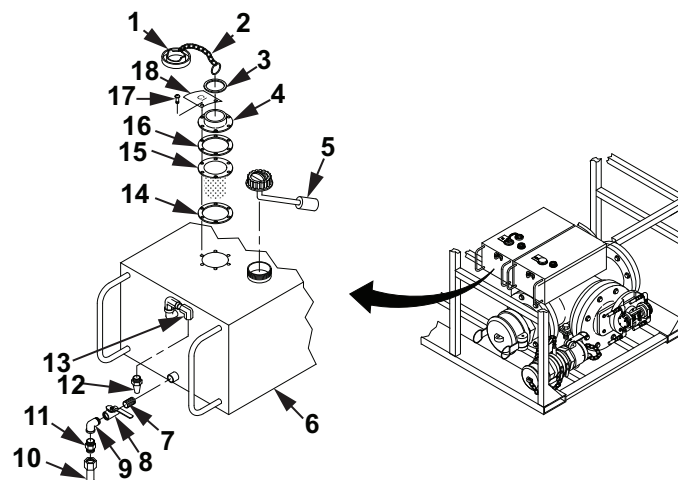

Figure 2. Fuel Additive Injection Assembly CI and SDA Additive Tank Disassembly.
1. Install additive shutoff valve (Figure 2, Item 8) into additive tank (Figure 2, Item 6).
- a. Apply teflon tape to threads of nipple (Figure 2, Item 7).
- b. Install nipple (Figure 2, Item 7) in additive shutoff valve (Figure 2, Item 8). Tighten nipple (Figure 2, Item 7).
- c. Install additive shutoff valve (Figure 2, Item 14) and nipple (Figure 2, Item 7) into additive tank (Figure 2, Item 6). Tighten additive shutoff valve (Figure 2, Item 8).
- d. Apply teflon tape to threads of 90° elbow (Figure 2, Item 9).
- e. Install 90° elbow (Figure 2, Item 9) on additive shutoff valve (Figure 2, Item 8). Tighten 90° elbow (Figure 2, Item 9).
- f. Apply teflon tape to threads of adapter (Figure 2, Item 11).
- g. Install adapter (Figure 2, Item 11) on 90° elbow (Figure 2, Item 9).
- h. Connect hose (Figure 2, Item 10) to adapter (Figure 2, Item 11).
2. Install level gauge (Figure 2, Item 5) in additive tank (Figure 2, Item 6).
3. Install filler/strainer (Figure 2, Item 15) on additive tank (Figure 2, Item 6).
- a. Install new gasket (Figure 2, Item 14) on filler/strainer (Figure 2, Item 15).
- b. Install filler/strainer (Figure 2, Item 15) in additive tank (Figure 2, Item 6).
- c. Install new gasket (Figure 2, Item 16) on filler/strainer (Figure 2, Item 15).
- d. Install new gasket (Figure 2, Item 3) on cap (Figure 2, Item 1).
- e. Install chain (Figure 2, Item 2) on retainer ring (Figure 2, Item 4).
- f. Install retainer ring (Figure 2, Item 4) on filler/strainer (Figure 2, Item 15).
- g. Install tank tag (Figure 2, Item 18) on filler/strainer (Figure 2, Item 15).
- h. Install six screws (Figure 2, Item 17) to secure tank tag (Figure 2, Item 18) and filler/strainer (Figure 2, Item 15) to additive tank (Figure 2, Item 6). Tighten six screws (Figure 2, Item 17).
- i. Install cap (Figure 2, Item 1) on filler/strainer (Figure 2, Item 15).
4. Apply teflon tape to threads of vent filter (Figure 2, Item 12).
5. Install vent filter (Figure 2, Item 12) on 90° elbow (Figure 2, Item 13).